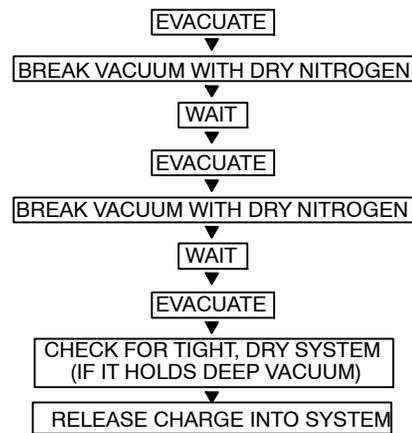

Fig. 22 – Triple Evacuation Method
The triple evacuation method should only be used when vacuum pump is only capable of pumping down to 28 in. of mercury vacuum and system does not contain any liquid water. Refer to Fig. 22 and proceed as follows:
Refer to Fig. 22 and proceed as follows:
5. Repeat this procedure as indicated in Fig. 22. System will then be free of any contaminants and water vapor.